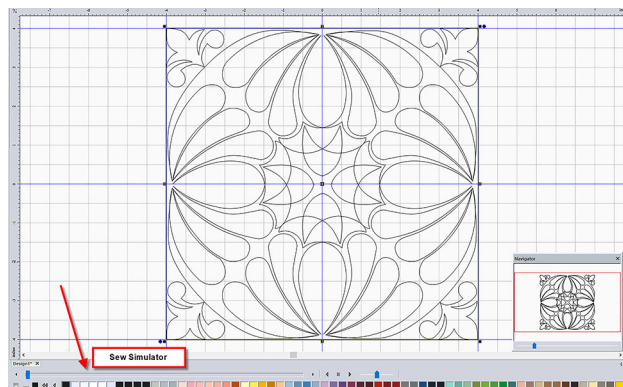

Fig. 86
-  Touch the first icon on the second toolbar to the left for **Line Sew** Type: **Running Stitches**. This adds stitches to the design, which populates the Sew Simulator (Fig. 86). The properties on the right-hand side of the screen shows the stitch information.